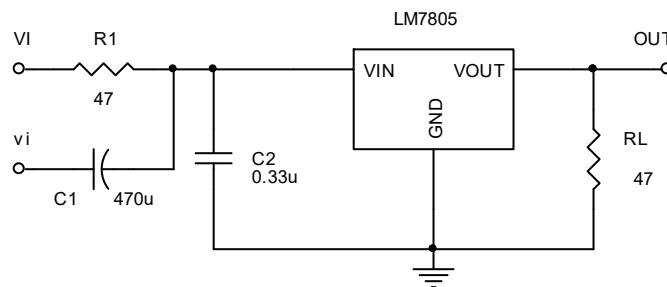

Fig.2. Line regulation
- Build the experimental schematic in Fig. 2., by supplying the V_I point with a DC voltage $V_I=14V$ and the v_i point with a sinusoidal voltage $v_i=2\sin 2\pi 120t [V]$. To do this, disconnect $J1$ from $J2$, $J9$ from $J9$, and $J11$ from $J12$ and connect $J3$ with $J4$, and $J14$ with $J15$.